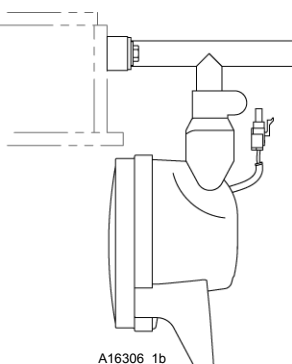

FIGURE 4-29
6. Remove the optional boom light from the shipping position tube by loosening the thumbscrew at the base of the light. Place the light in the working position tube (see Figure 4-29) and tighten the thumbscrew. Connect the boom light to electrical cable WCLE.
- c. Disconnect the optional boom working light from electrical cable WCLE. Loosen the thumbscrew, remove the light from the working position tube and secure the light in the shipping position in the boom butt (see Figure 4-29).